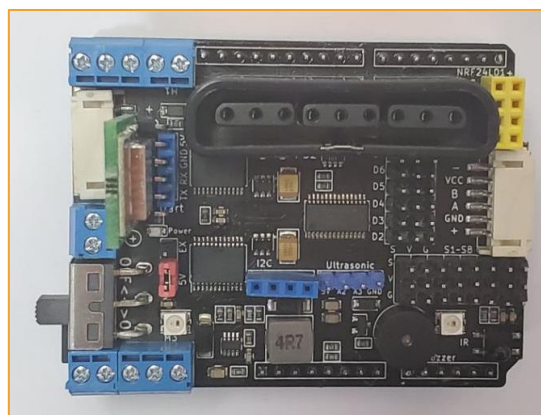

图 6-3-1
- If there is a WiFi module, insert the WiFi module into the expansion board correctly, as shown in figure 6-3-1